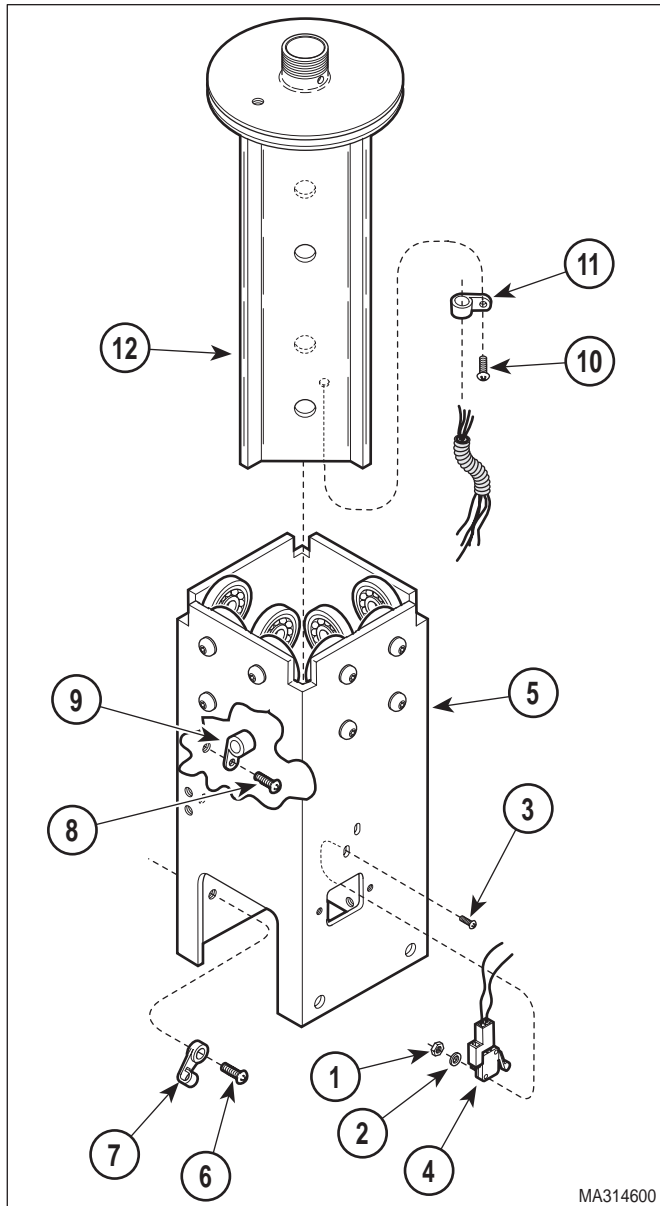

Figure 4-17. Removal / Installation of Internal Components of Column Assembly
- (6) Remove two screws (11) and switch cover (12) from elevation column (4).
- (7) Remove two nuts (1, Figure 4-17), lockwashers (2), screws (3), and base down limit switch (4) from elevation column (5).
- (1) Install cable clamp (11, Figure 4-17) on slide weldment (12) and secure with screw (10).
- (2) Install cable clamp (9) on elevation column (5) and secure with screw (8).
- (3) Secure cable tie (7) on elevation column (5) and secure with screw (6).
- (4) Install base down limit switch (4) on elevation column (5) and secure with two screws (3), lockwashers (2), and nuts (1).